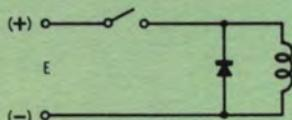
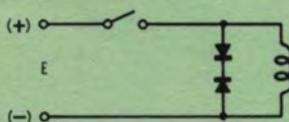

Fig. 2 — Polarized Protection
Fig. 3 — Non-polarized Protection
Typical circuits illustrating the use of semiconductors in contact protection are shown in Fig. 2 and Fig. 3. The choice of which circuit to use will depend upon three factors: (1) supply voltage; (2) maximum permissible induced voltage; and (3) maximum allowable time delay in de-energizing the coil.
It is thus seen that the peak voltage is dependent only on the supply voltage and the ratio of suppressor resistance to coil resistance. However, if R_S is made small in order to reduce the peak generated voltage, the delay time becomes longer. The circuit of Fig. 2 has a low forward resistance, and the circulating current will tend to flow for a much longer time than it takes for the current to decay in an unprotected circuit. If decay time is important, then the circuit of Fig. 3 should be used. If the supply is ac, then Fig. 3 is absolutely necessary, since the suppressor must block voltages of both polarities equally.